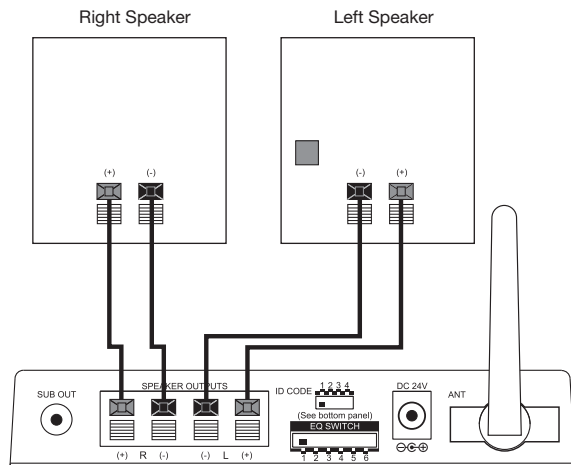

Figure 4.
Connect the speaker wire to the push terminals on the receiver module ① and the terminals on the rear of your speakers, as shown in Figure 4. Please note that the speaker wire features a polarity indicator to help distinguish its two conductors. Use this polarity indicator to ensure that you are connecting the positive (+) terminal on one speaker to the positive (+) terminal on the other, and the negative (-) to the negative (-).